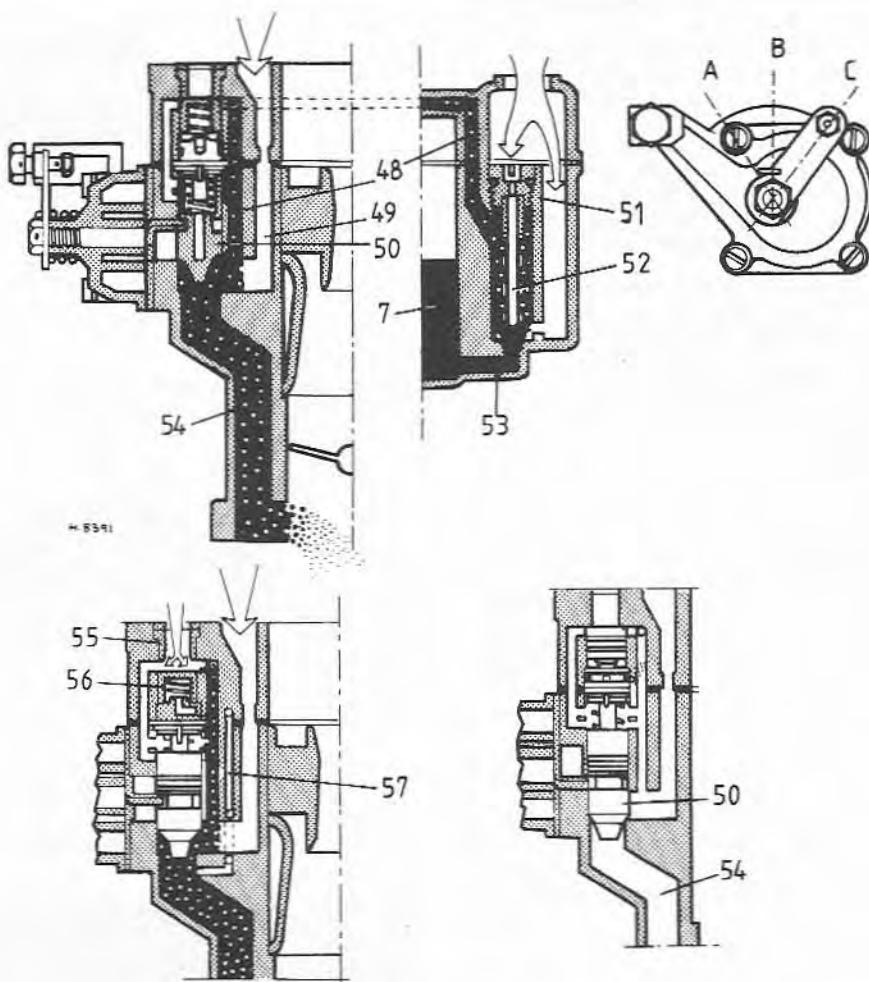

Fig. 6.3 Cold starting device operation (Sec 3)
When the choke cable is pulled, the starting device operating lever turns the control shaft which lifts the starting valve off its seat. Reference to Fig. 6.3 will show that fuel from the float chamber (7) is driven through the channel (53) to arrive at the starter fuel jet (52). Air entering through the air correction jet (51) and the bypass channel emulsifies the fuel as it is drawn through the starting jet emulsion holes and the bypass channel. The mixture is then drawn through the channel (48) and past the starter valve (50) where additional air from the channel (49) weakens the mixture. The final mixture is drawn through the channel (54) and into both the primary and secondary carburetor barrels at the engine side of the throttle valves.